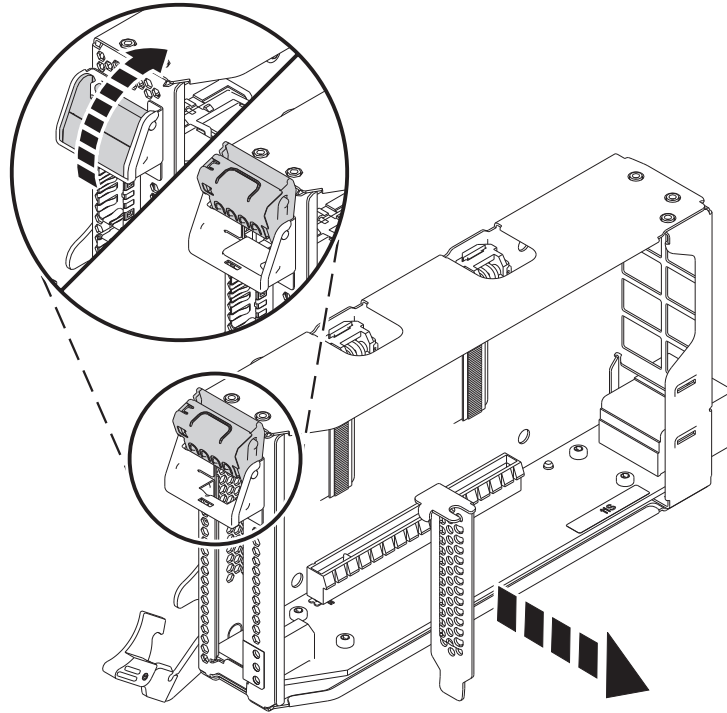

Figure 29. Removing the PCIe adapter filler from the adapter cassette
- c. To unlock the filler tailstock, rotate the latch that is located at the tailstock end of the cassette as shown in Figure 29 on page 29.
- d. Remove the filler tailstock from the cassette, as shown in Figure 29 on page 29.